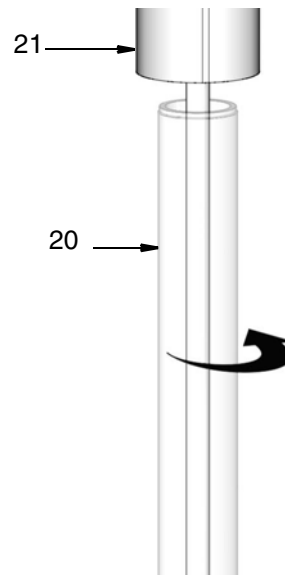

FIG. 12
6. Apply a thin layer of grease to piston seal (22*). Reinstall down tube (20) into pump base (21). Torque to 100 to 150 ft-lb (135.6 to 203.4 N•m) (FIG. 12).